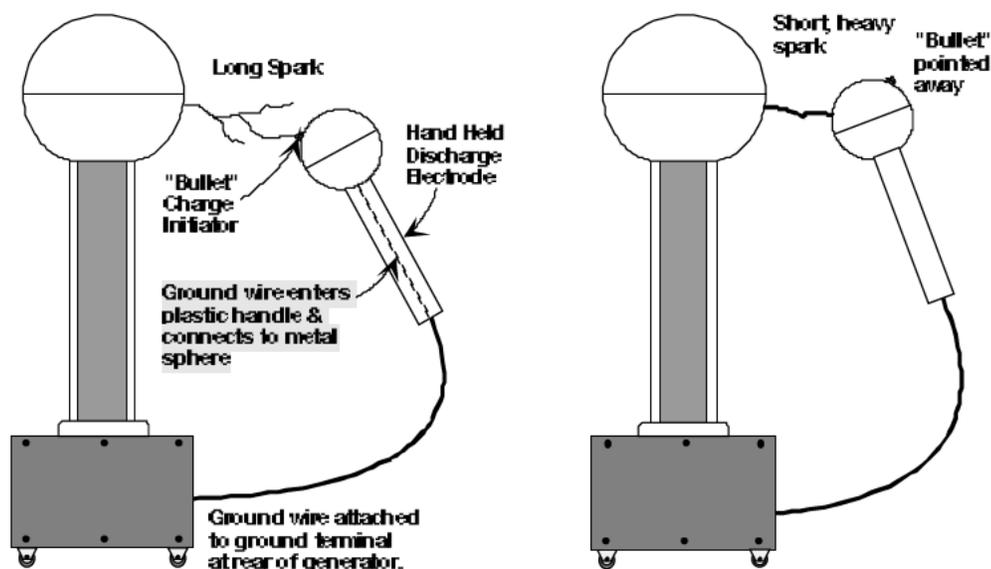

Fig. 36 - Drawing sparks with a hand-held electrode
2. **Discharge to a Hand-Held Electrode:** Drawing long sparks takes the right configuration and a bit of practice. Under good conditions, the 4' Van de Graaf can produce visible sparks more than 12" long between the Collector and the proper ground electrode (Fig. 36).